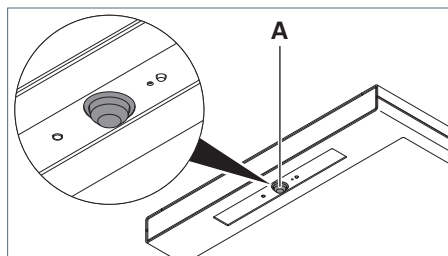
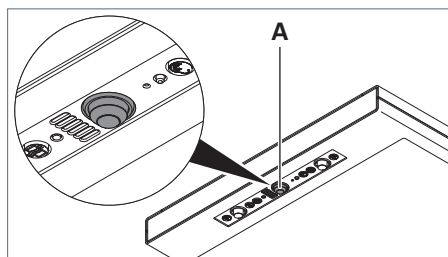

Fig. 14: PIR sensor, version R.
Fig. 15: PIR sensor, version RX.
- Set the ball head **A** of the PIR sensor to the required direction, see Fig. 14 or see Fig. 15.